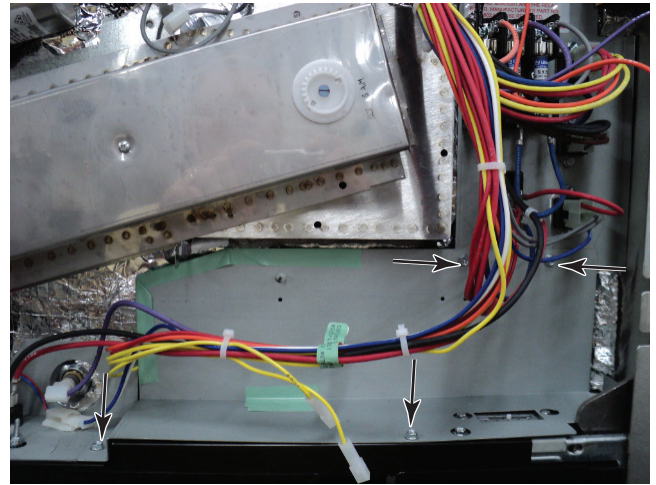

Figure 10
11. Remove four screws securing partition panel and move panel out of the way to access feed box (Figure 10)